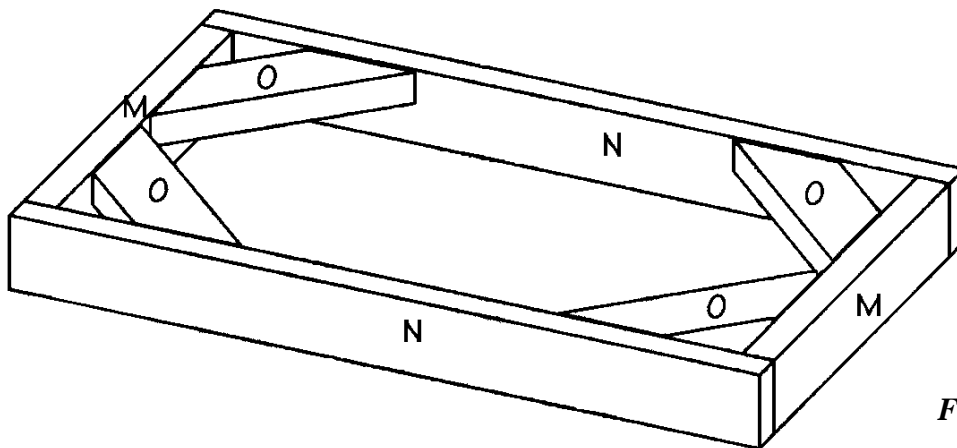

Figure 11
8. Place the base assembly on a perfectly level surface. Apply glue to the mitered ends and screw a base support (O) into each of the four corners of the base assembly, as shown in *Figure 11*. The base supports (O) will be flush with what will be the top of the base assembly.
8. Place the base assembly on a perfectly level surface. Apply glue to the meeting surfaces and screw a base support (DD) into each of the four corners of the base assembly, flush with what will be the top of the base assembly, as shown in *Figure 11*. Use two 3-inch screws on each of the base supports (DD).
9. Center the base assembly on the bottom of the cabinet with the base supports (DD) meeting the cabinet bottom (R). The base assembly should be 1 inch from each of the edges of the cabinet bottom (R). Apply glue to the meeting surfaces and screw through the base supports (DD) into the cabinet bottom (R) using three 2-inch screws on each base support (DD).
10. Cut one back (EE) from 1/4-inch plywood, measuring 80 x 30 inches.
11. Place the back (EE) over the back of the cabinet, overlapping the sides (Q) and top/bottoms (R). Apply glue to the meeting surfaces and nail through the back (EE) into the edges of the sides (Q) and top/bottoms (R) using 1-inch (2d) finishing nails spaced every 4 inches.
12. Turn the completed cabinet on its back and place the two cabinet doors over the lower opening in the cabinet. Allow about 1/8-inch space between the doors. Check to make certain that the doors are straight and that the door panels (Z) fit evenly inside the opening in the cabinet assembly. Then attach the doors to the cabinet using two hinges on each door. Also install door catches on each of the cabinet doors to make certain that they will stay closed when you shut them.